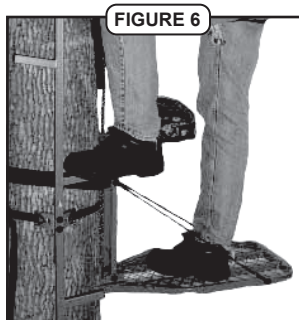

FIGURE 6
**STEP 6** When moving from your climbing aid to your Hang-On Tree Stand, step down from the aid to the stand as shown in Fig. 6. **Cautiously** put your weight on the stand's platform. The additional weight will create tension on the tree attachment strap and cables.